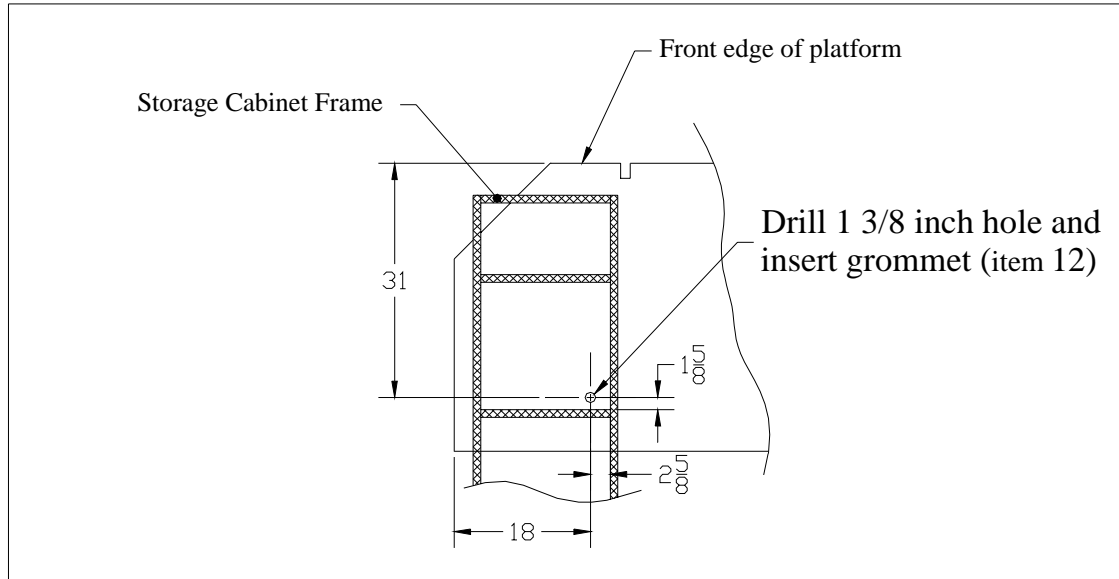

Figure 6. Location of cable pass-through hole inside storage cabinet.
3) Gain access to the platform deck inside the storage cabinet by opening the cooling cabinet door. Drill a 1-3/8 inch hole in the aluminum platform deck in the position shown in Figure 6. Use reference dimensions from the storage cabinet frame to position the hole. NOTE: If the storage cabinet is removed, use the alternate dimensions from the edge of the platform in Figure 6 to position the hole. Insert one grommet (Item 12) into the hole.